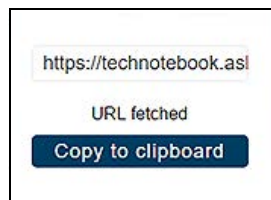

Figure 12-11
2. Select **Copy to Clipboard** (Figure 12-11) from the pop-up window.